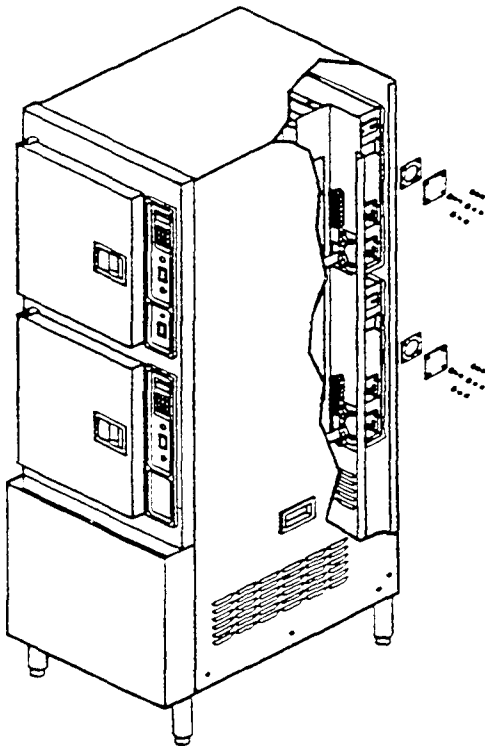

Figure 4-1 - Steam Generator Cover Plate
- b. Remove the 3x3 inch cover plate. See Figure 4-1.